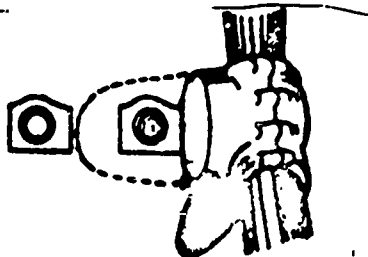

Figure 3. Positioning Protractor on the Propeller.
c. Place one side of the protractor on a flat surface of the propeller that is parallel to the plane of rotation. Use either the front of the hub, or the outer most end of the pitch change mechanism, as illustrated in figure 3.